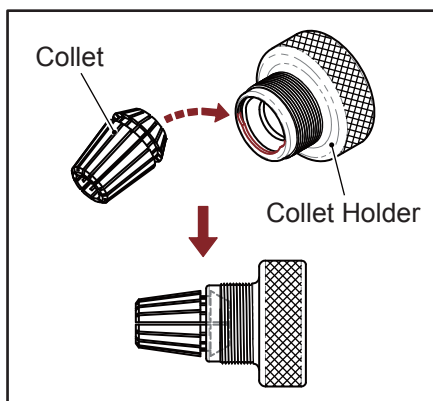

Fig. 4-1
- 2) Put the collet into collet holder by 45° angle. (Fig. 4-1)